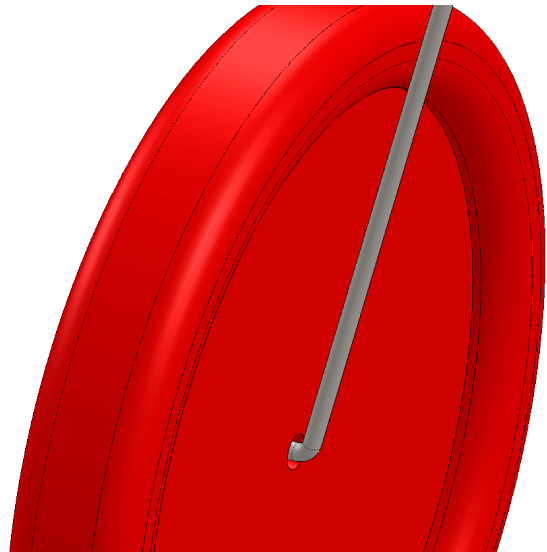

Fig. 11
Step 6. Click Add/Finish Mate  in Mate pop-up toolbar to add a **Coincident** mate, **Fig. 11**.